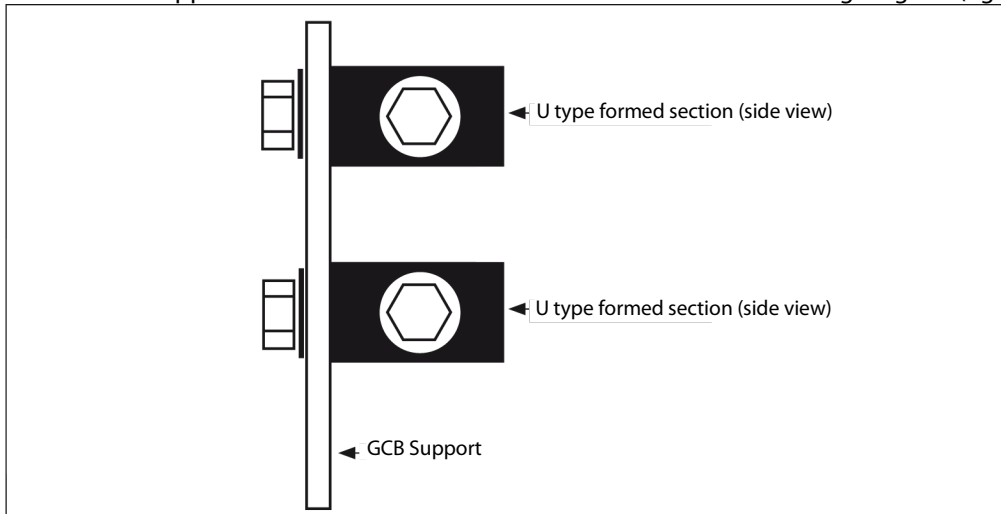

Figure 06
- Fit the GCB support to the two U formed sections as shown in the following diagram (figure 06)